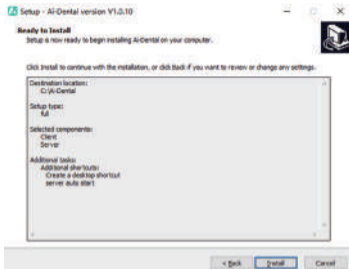

Figure 8
3.1.7 Click the “Install” button to start the installation, as shown in Figure 8: